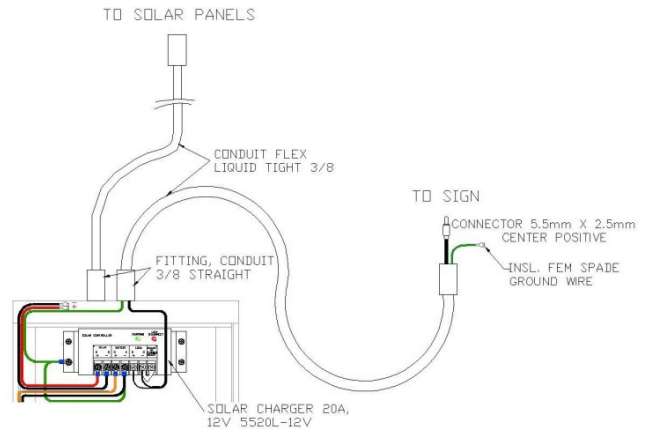

Figure 3-3. Wiring Solar Charger in Battery Box
Connect ECS wires to solar charger in battery box. See Figure 3-3.
8. Connect the solar panel wires to the solar charger in the battery box. See Figure 3-3.
- b. Connect the solar panel red wire to the positive (+) terminal of the solar charger “SOLAR +” terminal (4).
- c. Connect the solar panel black wire to the solar charger “SOLAR –“ terminal (3).